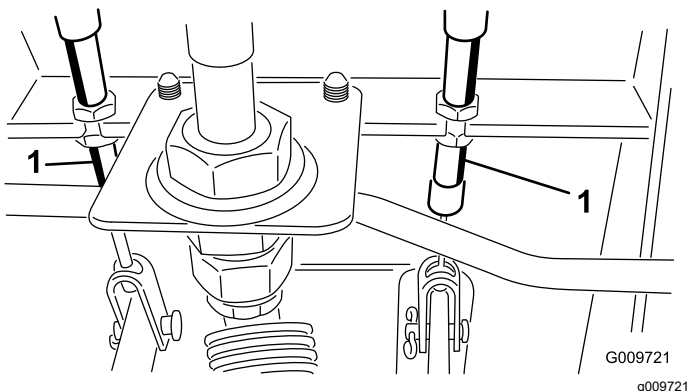

Figure 113
- A. Loosen the front nut on the threaded end of the brake cable (Figure 113).